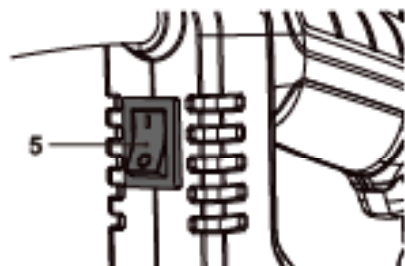

Fig. 4
1. Switch the product on by pressing the on/off switch (5) at "I" marking (Fig. 4).
2. Switch the product off by pressing the on/off switch (5) at "O" marking.